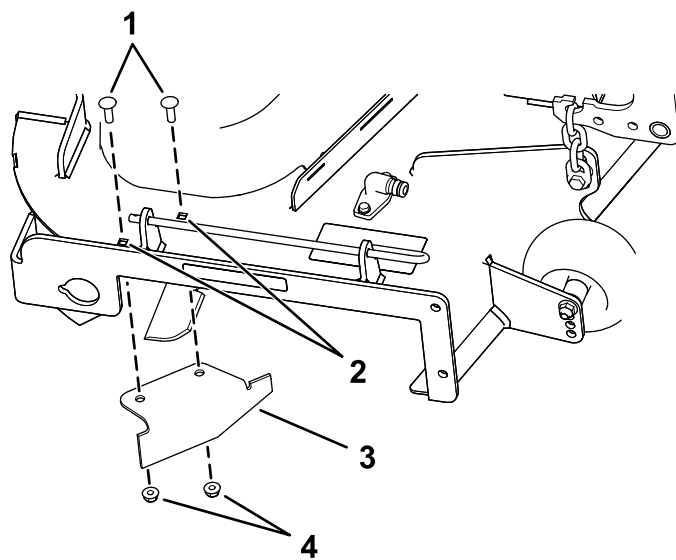

Figure 34
- Locate the cutoff baffle in the loose parts bag and remove the fasteners at the rear holes of the discharge plate (Figure 34).